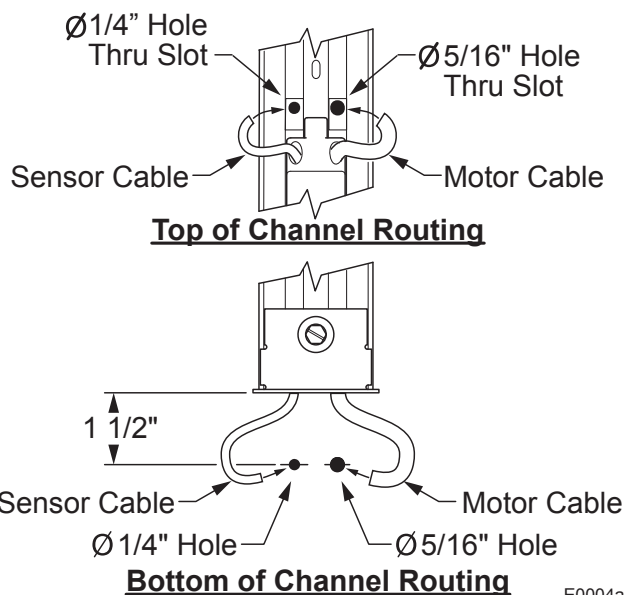

Figure 8. Cable Pass Thru Drill Pattern.
2.1 (Refer to Figure 8) Drill two 5/16" holes through the vehicle wall for the motor cable and exterior switch cable. Move the cables out of the way to avoid damage while drilling.